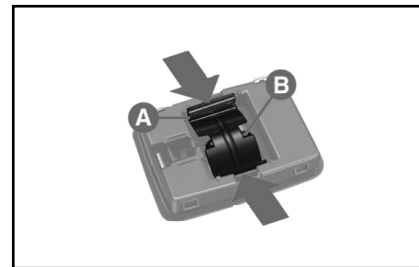

fig. 29
– remove the reflector **A**-fig. 29 acting in the direction shown by the arrows and replace the cylindrical bulb **B**;